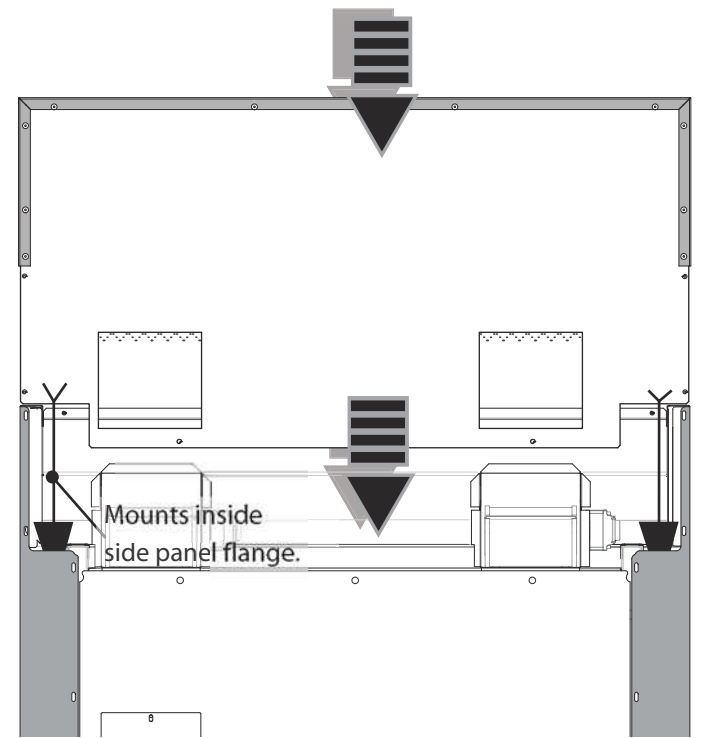

Figure 29: Backguard Installation
3. Align the back panel of the new accessory with the flanges on the range side panels right and left rear corners. The backguard is inserted inside the guide channels on the back of the range (Figure 29).